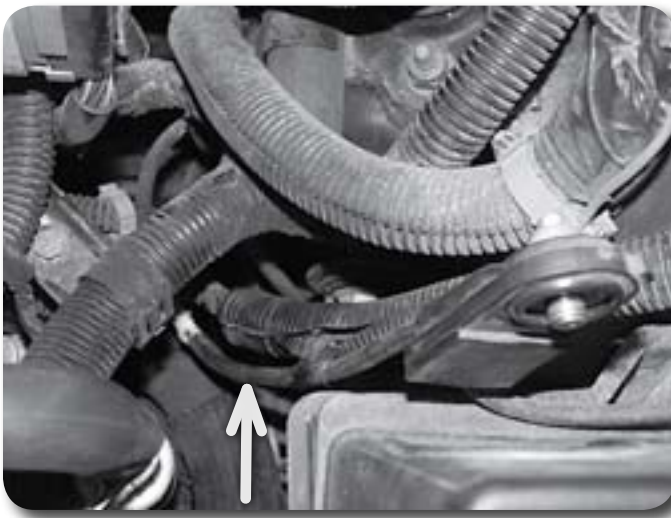

Figure 21
35. Locate the negative battery cable wire loom. Remove the tape and remove the negative battery cable from the wire loom to gain added length to reach the battery **Figure 21**. Do not hook that battery back up at this time.